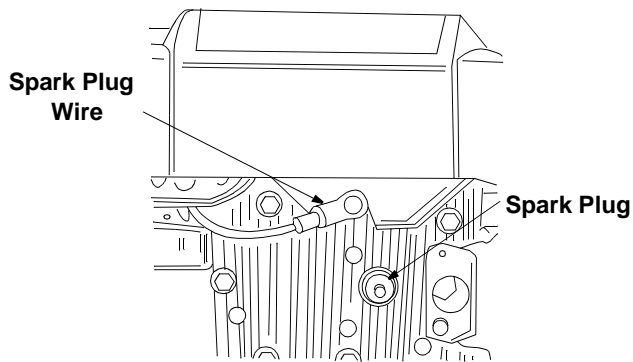

Figure 1
- Before setting up your lawn mower, disconnect the spark plug wire from the spark plug, and ground it against the engine. See Figure 1.